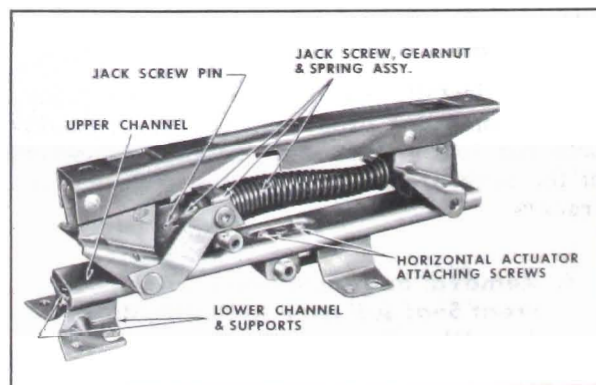

Figure 5-3—Seat Adjuster - Four-Way
3. Using a clutch type screwdriver or other suitable tool, remove shoulder screws securing linkages to vertical gear nut (Figure 5-3).
4. Using a drift punch, carefully drive out jackscrew pin (Figure 5-3).
2. Remove screws securing horizontal actuator and remove actuator from seat adjuster (Figure 5-3).